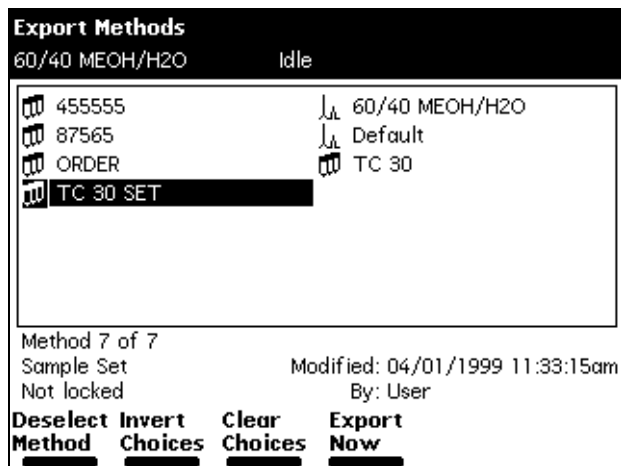

Figure 5-36 Export Methods Screen with Method Selected
3. Press the **Export Methods** screen key. The Export Methods screen appears, displaying a list of currently stored methods (Figure 5-36).